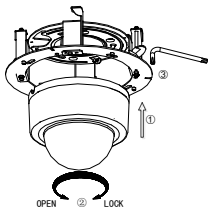

Figure 2-35 Fix the Camera
5. Fix the screws on the side with a screwdriver, as shown in Figure 2-35.